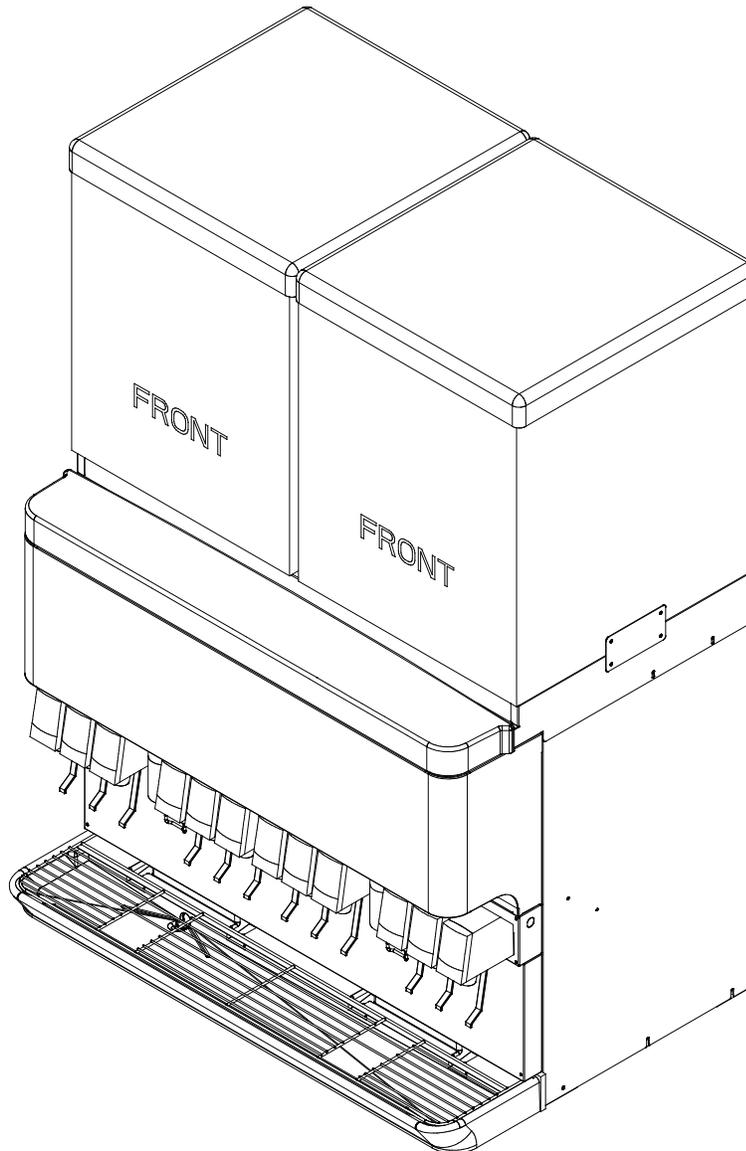

Figure 1. Ice Maker Adapter Kit
3. Place the ice maker adapter lid on top of the dispenser as shown in Figure 1.
4. Using the slotted holes in the lid as a template, drill (4) 0.147" diameter holes (#26 drill) at the bottom of the slots (see Figure 1, Detail A). **BE CAREFUL NOT TO DRILL INTO THE ICE STORAGE BIN.** Secure the lid to the dispenser with (4) #10 sheet metal screws.
5. Seal the ice makers to the dispenser lid as follows (see Figure 1):
- B. Set the ice makers onto the lid and position them as shown in Figure 1.